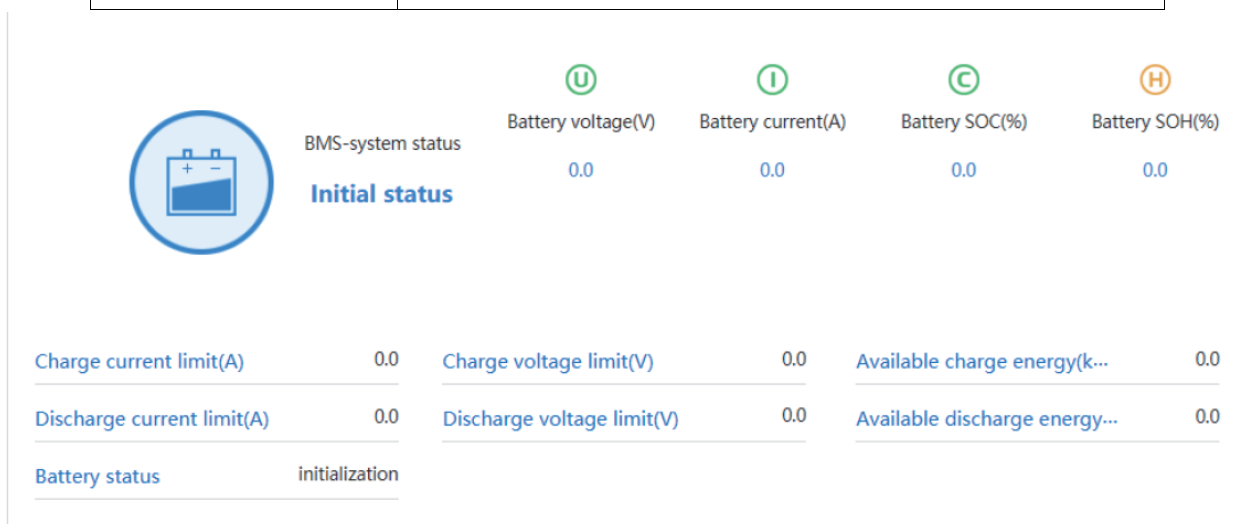

Figure 13 Unit battery running info page
- Move the page down, it will show the battery running info, as shown in Figure 13.